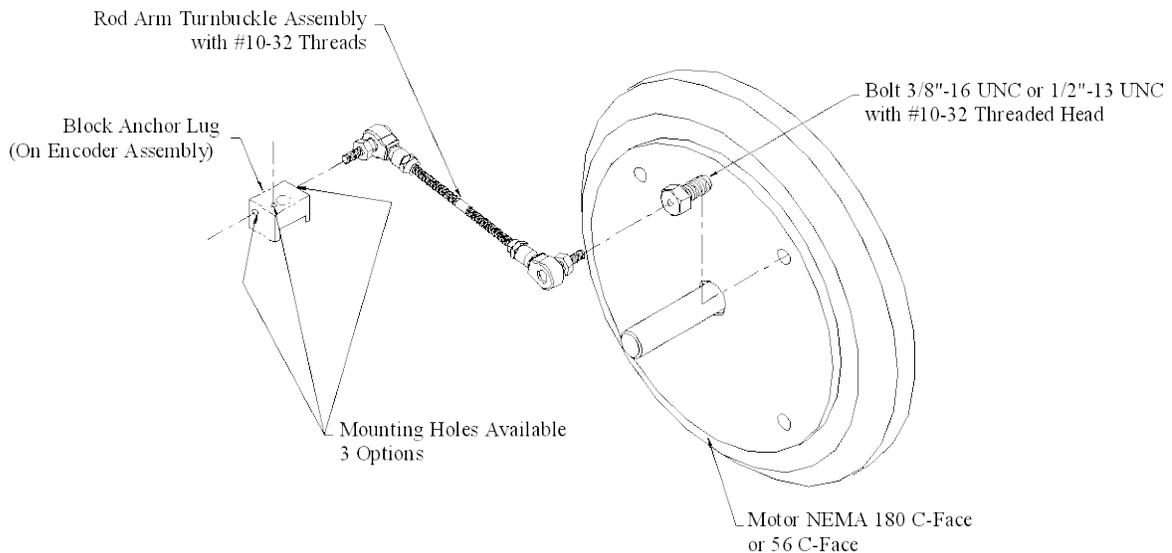

Figure 2: HS56 Anti Rotation Turnbuckle (Motor C-Face Mounting)
| Figure 2: HS56 Anti Rotation Turnbuckle (Motor C-Face Mounting)..... | 7 |
1. When the HS56 is to be mounted onto a motor with opposite end NEMA C-Face, insert the appropriate bolt (i.e. 3/8"-16 UNC or 1/2"-13 UNC) (provided in hardware kit) into threaded hole on motor C-Face and tighten (see Figure 2). After positioning the encoder to the best angular orientation, adjust rod arm length (see Figure 2) and cut if necessary for proper fit. Align rod end turnbuckle assembly with bolt and tighten to 49 in-lbs. The HS56 anti-rotation arm assembly is designed to accommodate 4.5" and 8.5" C-Face mounting holes.